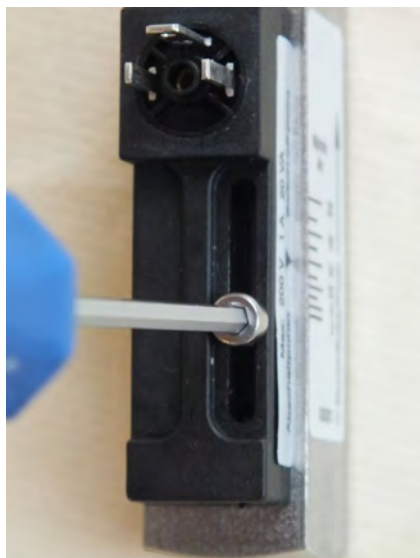

Fig. 31: Loosen set screw
1. ➤ Loosen the set screw of the switch contact (Fig. 31) using a Hex screwdriver.
3. ➤ Re-tighten the set screw of the switch contact (Fig. 31) using a Hex screwdriver. When doing so, observe the correct tightening torque of the screws.